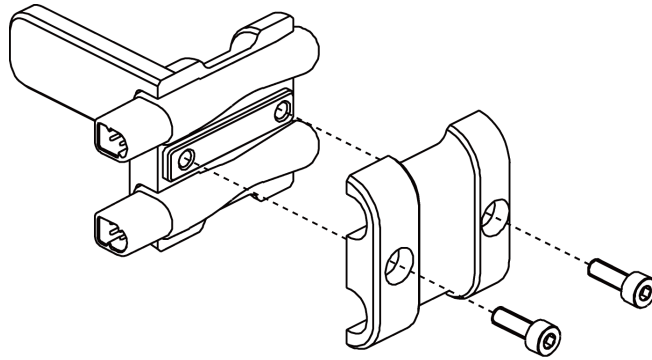
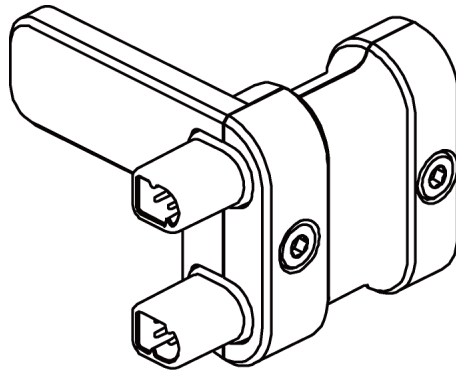
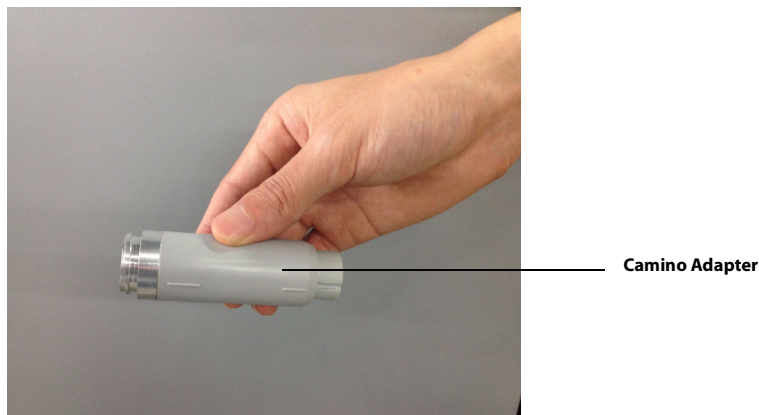

FIGURE 13-6 Camino Mounting Bracket Assembly
FIGURE 13-7 Camino Assembled Mounting Bracket
FIGURE 13-9 Camino Adapter
3. Insert the two screws into the top cover and secure them (as shown in FIGURE 13-6). Once assembled, mounting bracket resembles FIGURE 13-7.
One bedside monitor cable, the mounting bracket (shown in FIGURE 13-7) and one adapter (as shown FIGURE 13-9) in are needed to obtain an ICT measurement.